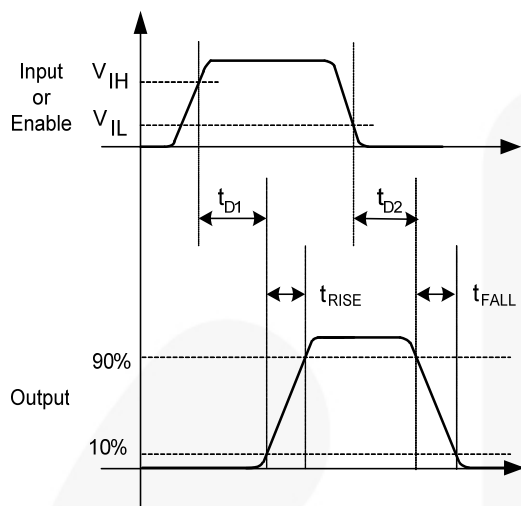
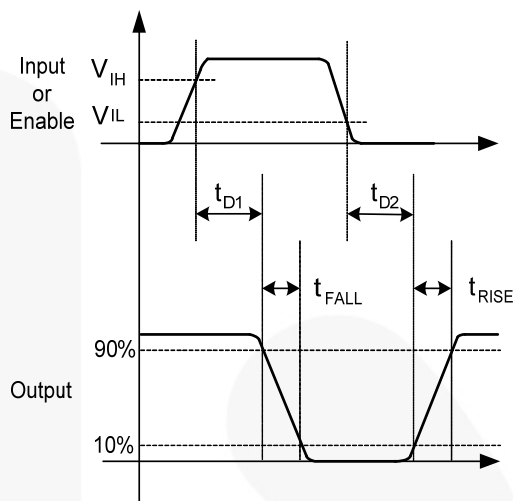

Figure 8. Non-Inverting
Figure 9. Inverting
11. See *Timing Diagrams of Figure 8 and Figure 9*.